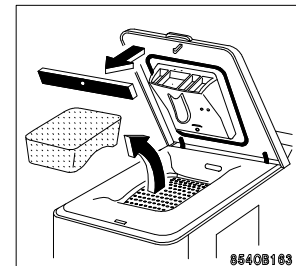

Fig. 2
- Open the lid of the appliance and remove the polystyrene and gummi wedges which block the drum. Close the lid (fig. 2).